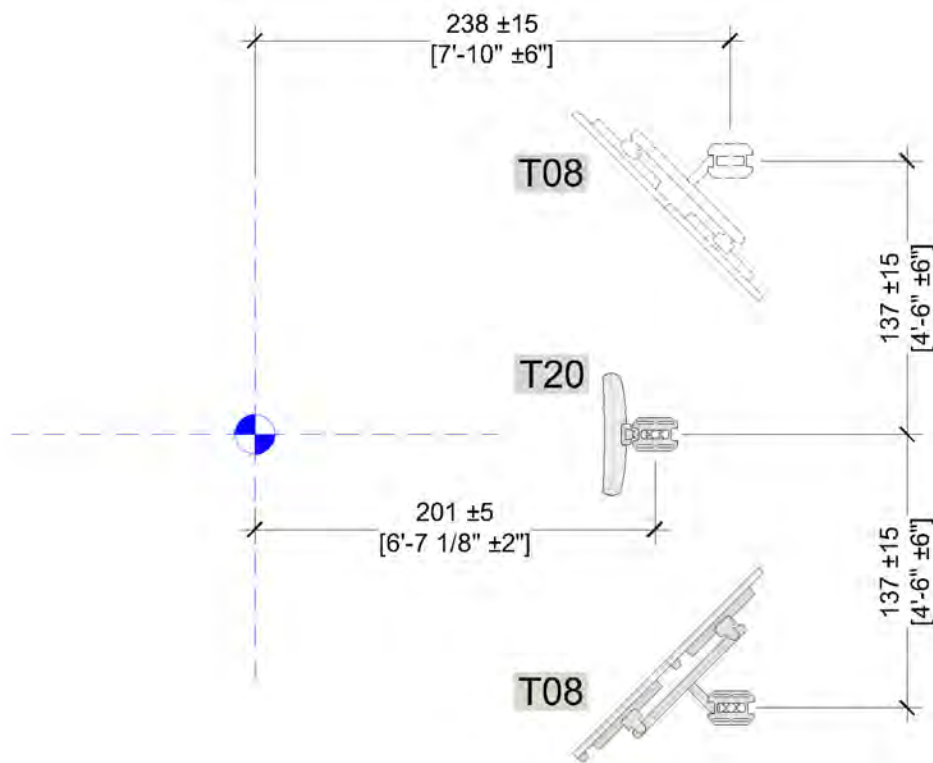

Figure 3-7 Treatment Room Ceiling Mounted Components (Plan)
- The IRMs (**T08**) in Figure 3-7, may be located on either side of isocenter, typically on the opposite side of the maze entrance, refer to Section 2.7.5 and Section 4.5 for more information.